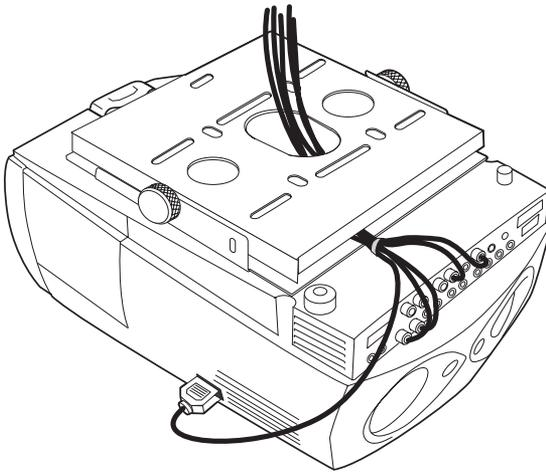

FIGURE 7
- 4 Route the projector's cables through your ceiling and out the hole in the ceiling (Figure 7).